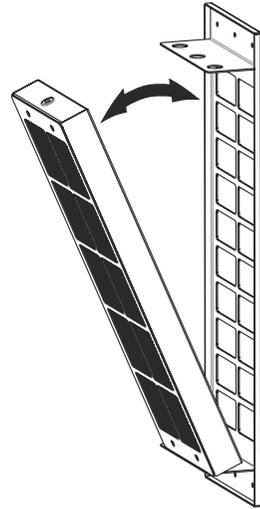

Fig. 9
3. ➔ Remove the active carbon filter (Fig. 9).